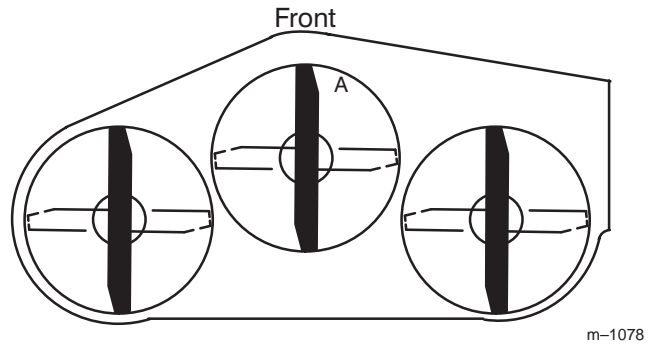
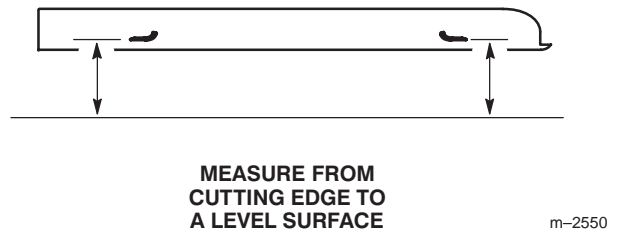

Figure 67
Figure 68
3. With the machine on level surface, position one blade front-to-rear (Fig. 67). Measure at "A" and from level surface to the cutting edge of the blade tips (Fig. 68).